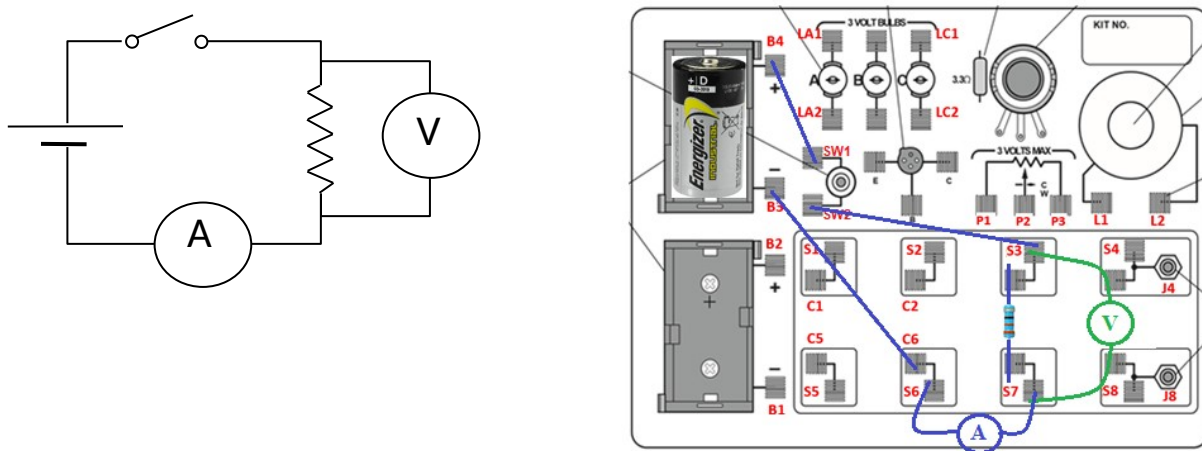

Figure 10: Voltage and Current Sensors, Circuit Diagram and Setup on the AC/DC Box
E. **Using Sensors for Voltage and Current (Figure 10)**